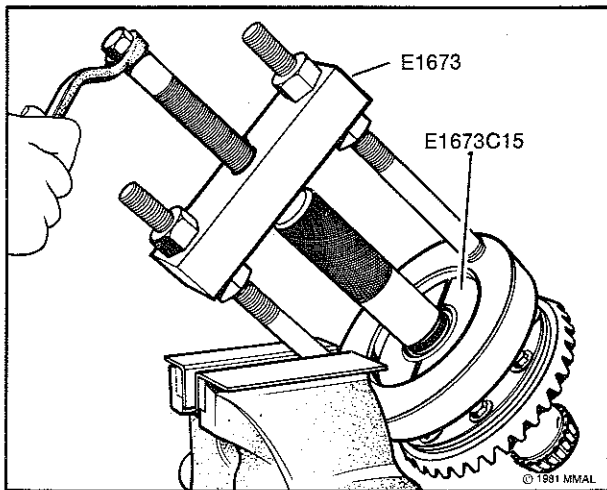

Fig. 23—Removing differential side bearing with special tools
(20) Remove differential pinion shaft with a brass drift.
(21) Remove substitute bolts and nuts from differential halves and separate to remove pinion gears and thrust washers.
- (22) Remove axle side gears and thrust washers.
(23) Remove differential side bearings with Special Adaptor Plates and Puller, refer Fig. 23.